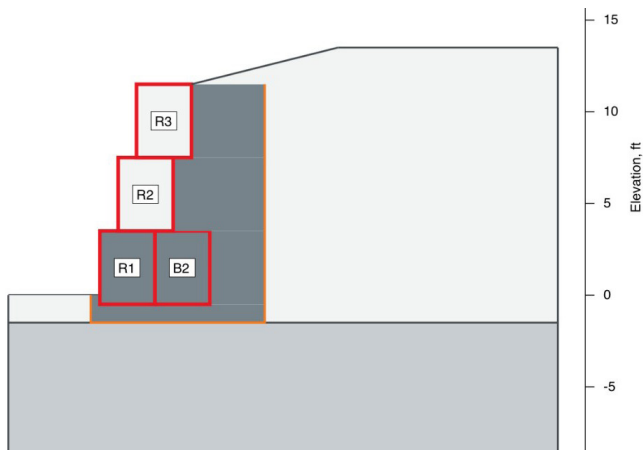

Figure 2: Typical configuration of stacked PROPEX Scourlok gravity-wall system
When a slope fails it tends to do so by one of two modes, translational or rotational failure. Translational failure is described as a sliding mass of soil along a plane of failure parallel to the surface of the slope. Typically, this is when the length of the failure is greater than 10 times the depth of failure. Rotational failure is described as a deep-seated sloughing of a larger mass of soil along a plane of failure of a circular shape. The incorporation of Engineered Earth Anchors can assist in remediating either type of failure by passively increasing the shear resistance of the soil (Figure 2).
performance of **PROPEX** Scourlok walls. The units can be stacked on top of each other, using a setback distance of 0.5 to 1.5 ft (0.15 m – 0.45m), thus forming walls up to 12 ft (3.7 m) high (Figure 2). Higher wall configurations may be constructed using a wider base, as long as the project specific design can provide an adequate factor of safety (FS).